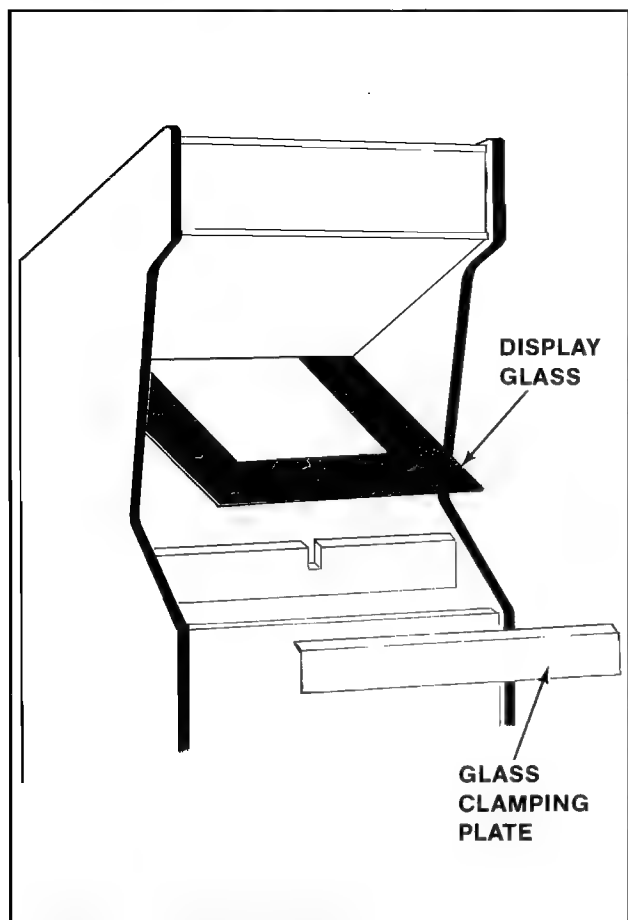

Figure 4-5 Removing the Main Display Glass & T.V. Bezel — Upright
- ☐ Remove the screws which secure the glass clamping plate. See Figure 4-5.
- ☐ By putting your finger in the hole in the middle of the main-display-glass support, you can lift it up and out. See Figure 4-5.